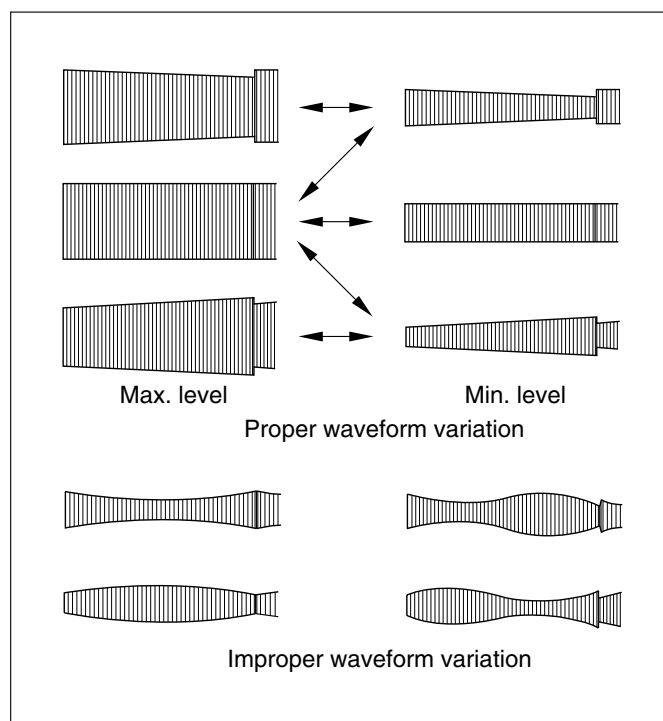

Fig. 2-5-1
- (1) Connect the oscilloscope to TP5 (PB FM: 8F) on the P/R board assembly and connect the external sync output to TP4 (D FF: 7F) on the P/R board assembly.
- (2) Play back the alignment tape VFK1741 to observe the FM waveform.
- (3) During playback, press the tracking buttons (+, -) simultaneously to enter the tracking center position.
- (4) By adjusting the tracking, check that there is no apparent level drop in the FM waveform and that the waveform varies totally in parallel and with linearity. If required, perform the following adjustments. (Fig. 2-5-1)